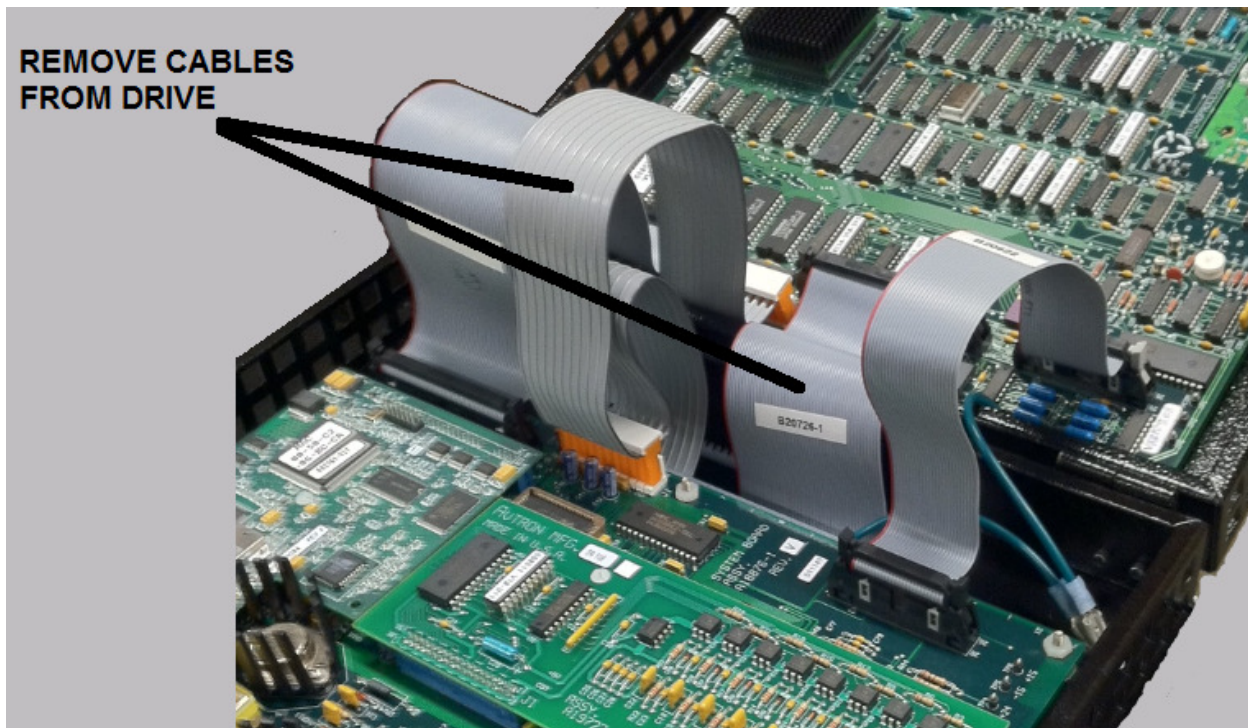

Figure12-3. The ADDvantage-32 electronics enclosure shows the two cables to be removed.
4. Remove the two ribbon cables that provide connections between the electronics enclosure and the bridge interface board. The two cables have the part numbers B20726-1 and B20727. The cables that are shown in Figure 12-3 below are plugged into connectors on the printed circuit boards within the ADDvantage-32 electronics enclosure. The B20726-1 cable will be reused with the ADDvantage-32 PLUS and should be retained. The B20727 cable will not be reused.